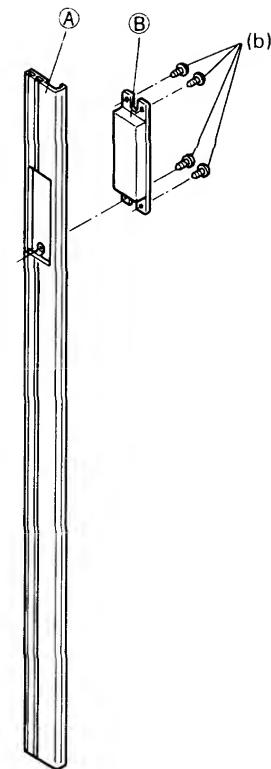

Fig. 7
- (1) Remove the corner panel (A) fastening the control unit.
- (2) Remove the screws (b) on fastening metal piece to pull out the control unit (B). (See Figure 7.)